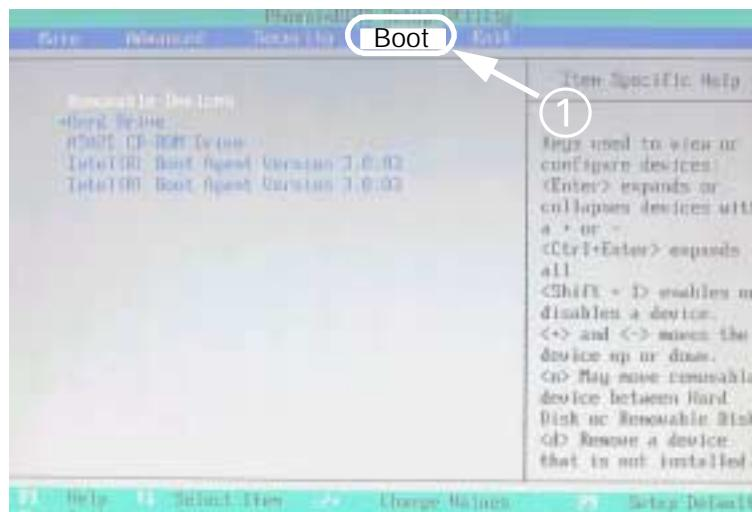

Figure 19-6 Boot settings
17. Select “Boot” tab (① in Figure 19-6) using up/down arrow keys.
18. Verify correct “Boot” order as shown in Figure 19-6.